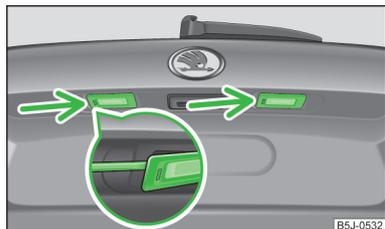

Fig. 161
- › Insert a flat screwdriver into the opening in the area of the arrow » Fig. 161 and carefully press towards the centre of the lamp; the lamp pops out slightly as you do this.